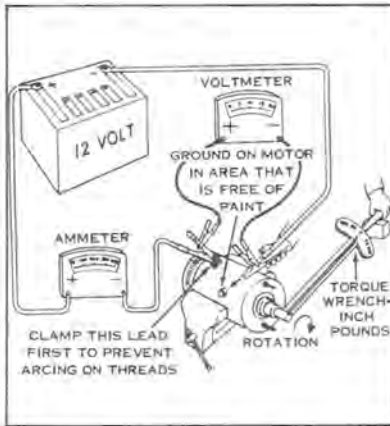

Figure 7-38
- a. Connect a voltmeter between the starter terminal (+) and motor frame (-). Using a torque wrench to stall motor armature (see Figure 7-38), connect starter motor through an ammeter to a 12-volt battery.